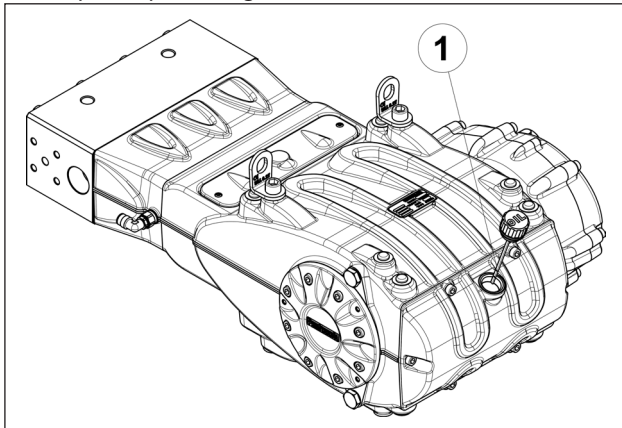

Fig. 9
5. Oil in the pump casing is at the required level, verified with a dipstick (pos. ①, Fig. 9).